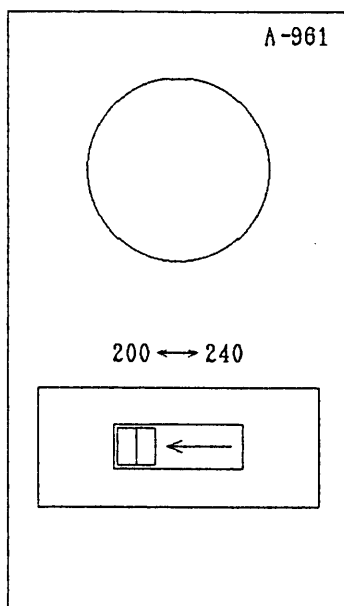

Figure 2-13 For 240V AC line
- (1) Set the switches of the A-961 board as shown in Figure 2-13.
- (2) Seal the switches of the A-961 board with the "AC 240V" seals.
- (3) Post the "AC 240V" seal on the printed "AC 200V" mark at the rear input terminal block.
- (4) Change the name plate of input voltage.